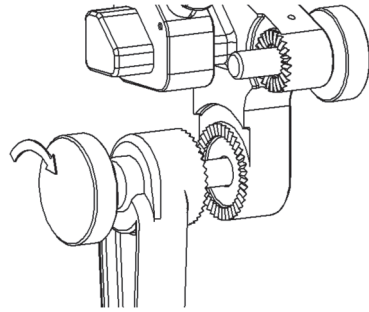
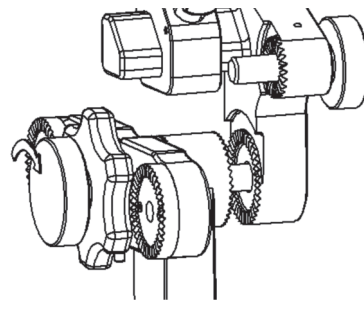

Figure 5
Figure 6
1. Attach the Adult Radiolucent Horseshoe Headrest to the chosen Swivel Adaptor by inserting the torque screw of the Short Swivel Adaptor (Figure 5) or the torque screw of the Radiolucent Tri-Star Swivel Adaptor (Figure 6) into the threaded hole of the Stationary Horseshoe Faceplate such that the starburst teeth of the Swivel Adaptor are facing the large starburst teeth of the Stationary Horseshoe Faceplate.